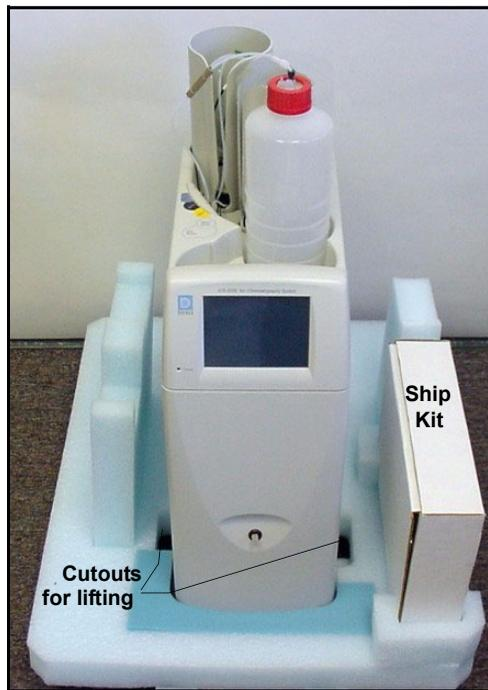

Figure B-3. ICS-2000 with Ship Kit
4. Remove the next layer of foam and remove the Ship Kit box (see Figure B-3).
5. The bottom foam layer has two cutouts on either side of the ICS-2000 module; use these as hand holds when lifting the module (see Figure B-3).